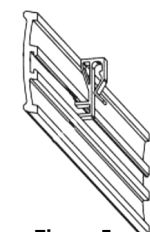

Figure 5
- Screw valance return clip (part D) onto the back of the valance and attach valance returns (Figure 5).